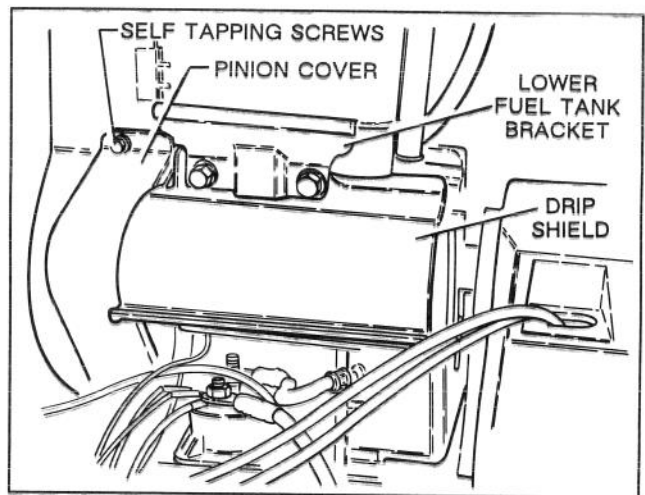

Figure 17
28. Install new pinion cover to engine with (2) new self tapping screws (Fig.17).
29. Position drip shield behind fuel tank lower mounting bracket and secure both to engine with (2) screws previously removed (Fig.17).